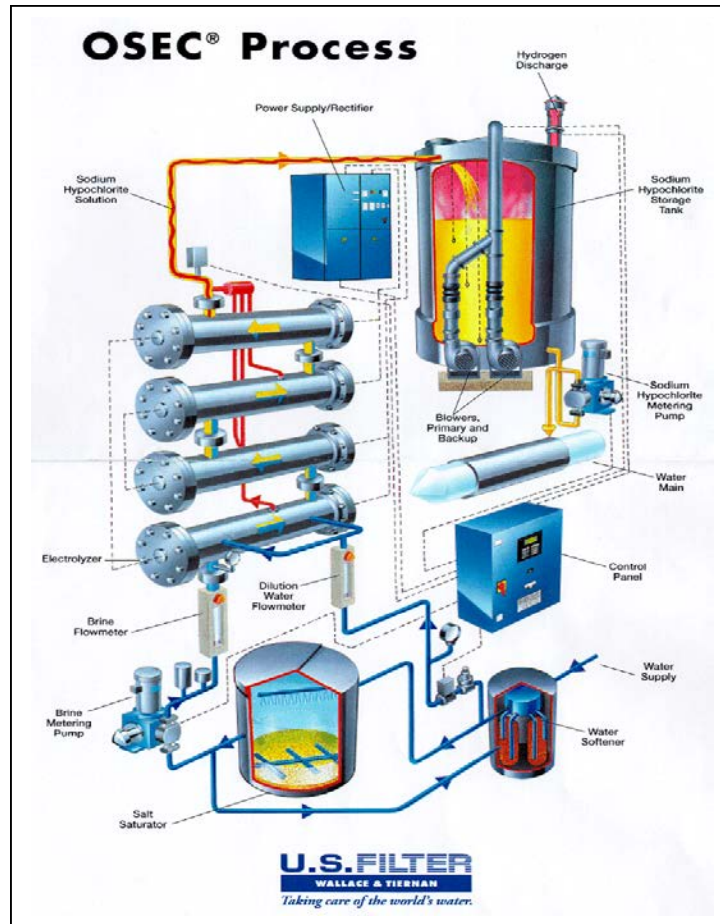

Figure 4.6 On-Site Hypochlorite Generation Process¹
- The brine storage vessel stores salt and softened water where concentrated brine solution is made and stored. (Noted as Salt Saturator in Figure 4.6.)
- The hypochlorite generators are reaction vessels where electrical charge is applied to the brine solution, resulting in the formation of sodium hypochlorite. (Noted as Electrolyzer in Figure 4.6.)